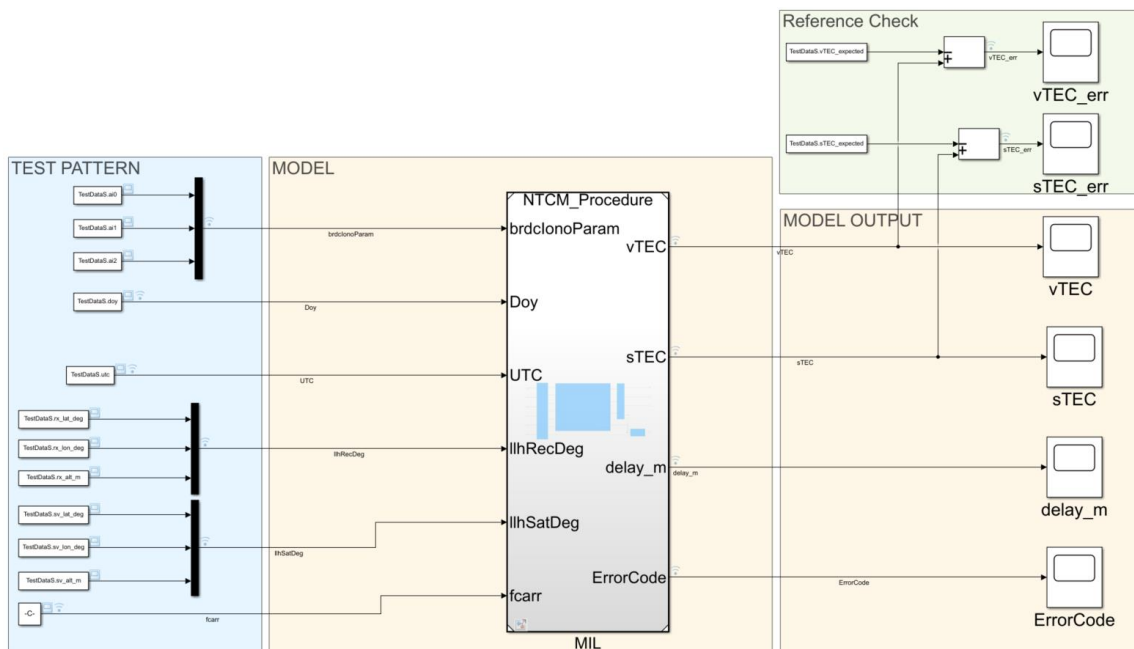

Figure 6: Performance Test Harness
- to check the model output with respect to the reference test vector (Reference Check in Figure 6)